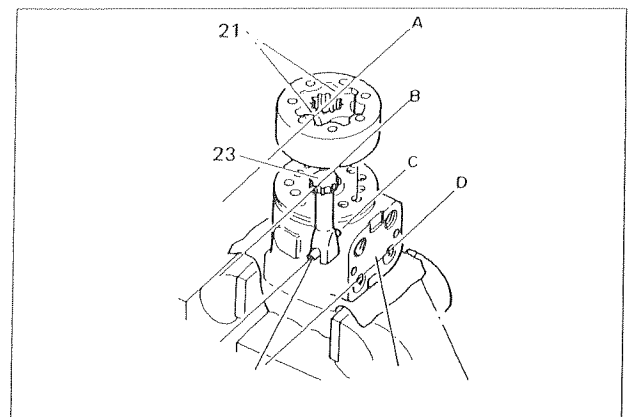

Fig. 52
- (1) When assembling spool to sleeve, wash clean with hydraulic fluid and after oiling, lightly push it in while turning. At this time, make sure that spool and sleeve are properly positioned together. If incorrectly assembled, it can cause steering wheel to vibrate to left and right or cause other faulty operation.
- (2) When assembling drive shaft (23) and rotor (21), vales (A) of rotor (21), drive shaft slots (B) and (C), and port surface (D) should all be positioned parallel with each other. Use extreme care to see that there is no error in installed positions as this can cause steering wheel to vibrate to left and right or cause other faulty operation. (Fig. 52).